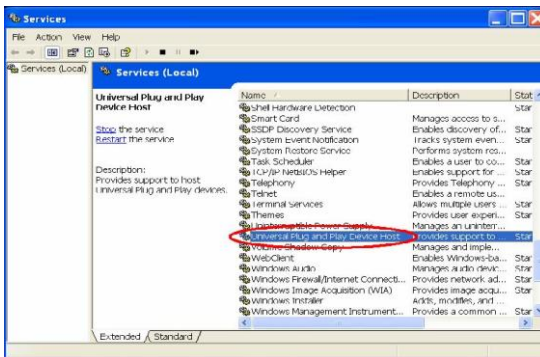

Figure A-19
**Step 6:** When the **Services** dialog box appears again, double click the **Universal Plug and Play Device Host** icon. See Figure A-19.